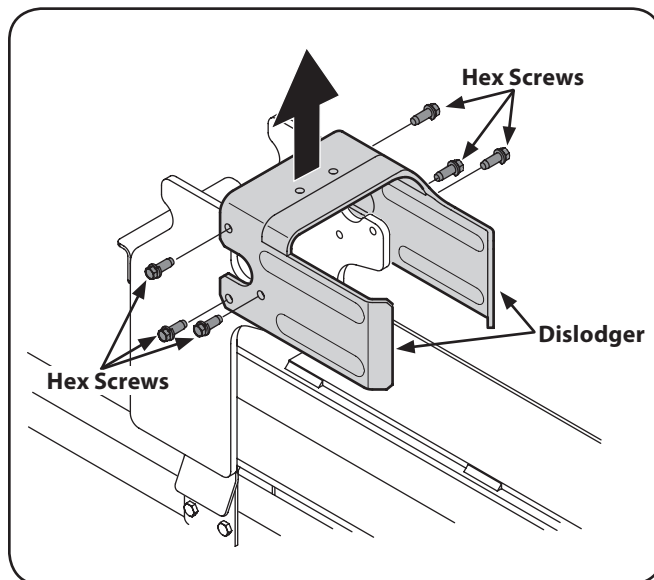

Figure 3-4
2. Disconnect the disloder from the beam weld bracket by removing the six hex screws. See Fig. 3-4.